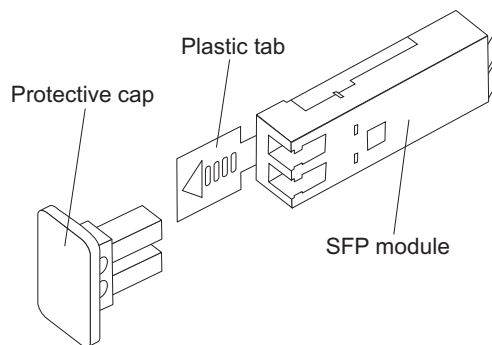

Figure 23. SFP module and protective cap
2. Remove the protective cap from the SFP module, as shown in Figure 23. Save the protective cap for future use.
2. If necessary, remove the protective cap from the SFP module, as shown in Figure 23 on page 40. Save the protective cap for future use.